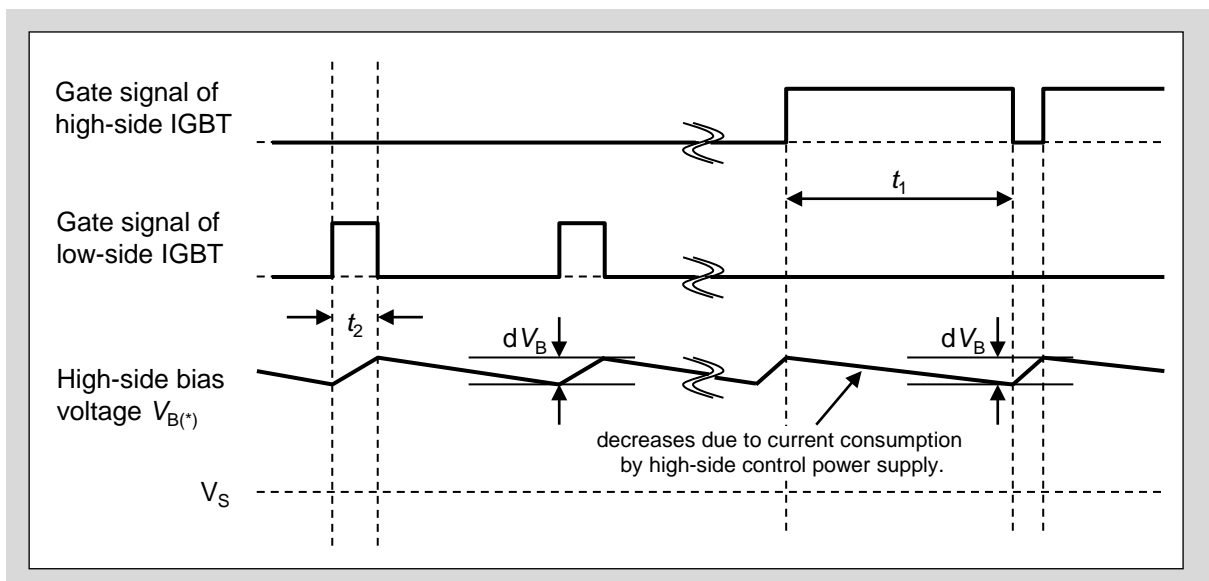

Fig. 3-10 Timing chart of charging and discharging operation
\*  $dV$  : allowable discharge voltage of  $V_{B(*)}$  (refer to Fig.3-10)
- In the case of the control mode which only the high-side IGBT performs switching operation (Fig. 3-10), the time constant should be set so that the discharged voltage can be fully recharged again during the high-side IGBT OFF (low-side FWD ON) period.